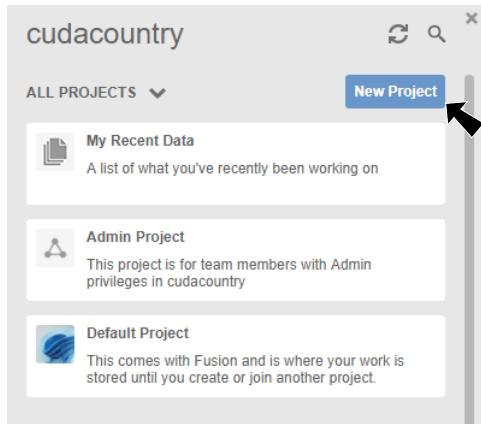

Fig. 8
Step 2. Click **New Project** button in the Data Panel, Fig. 8.